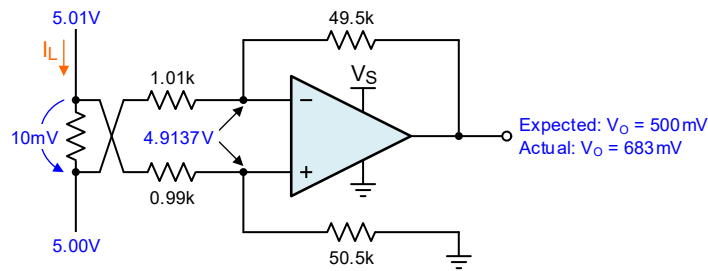
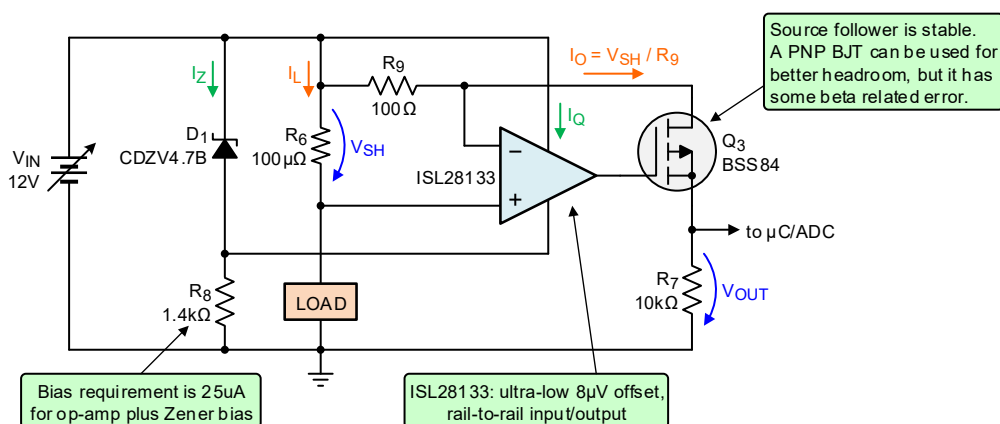
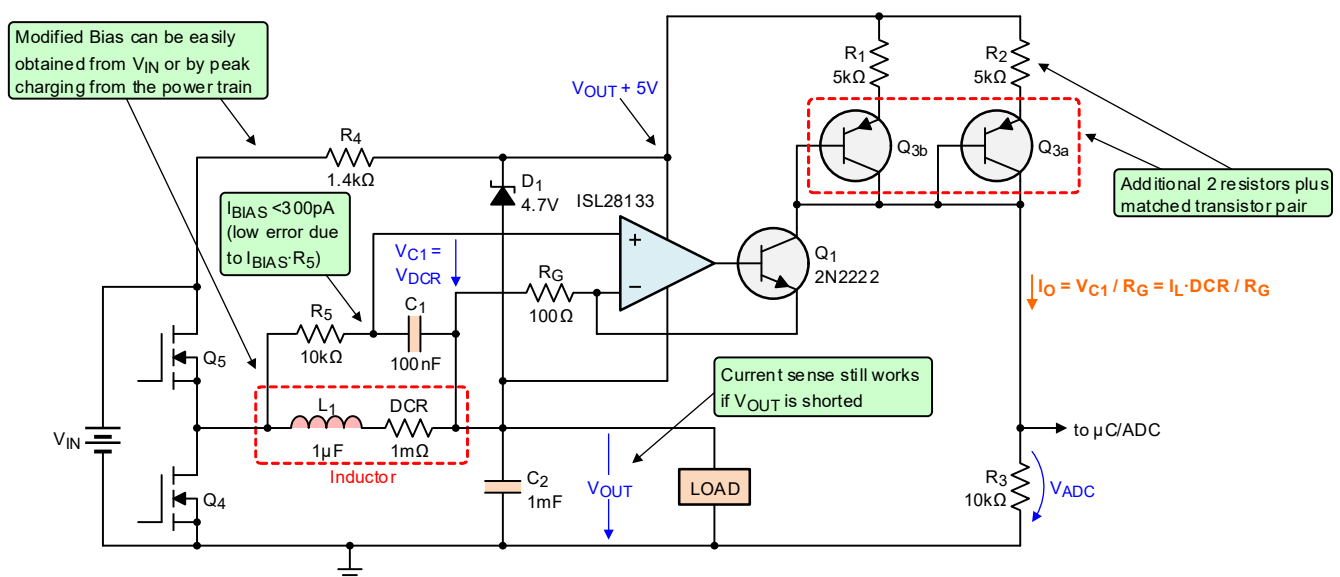
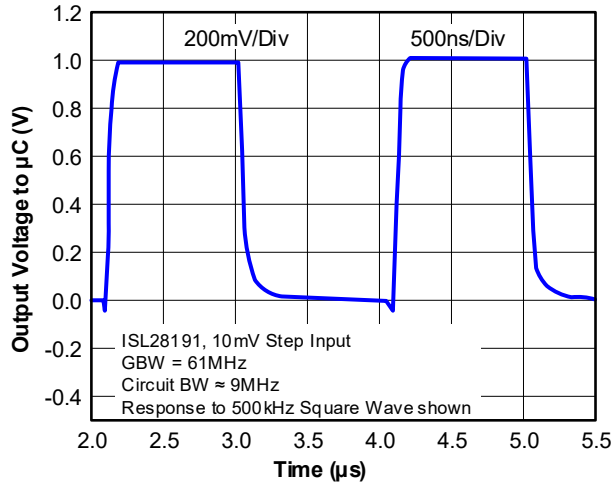

Figure 3. Differential Amplifier Configuration with 1% Tolerance Resistors
Figure 4. Simple Level Shift Circuit using a Low-Voltage Amplifier
Figure 5. Modified Sense Configuration using DCR Sensing in a Buck Converter
Figure 7. Simulated Response of the Circuit in Figure 5. The ISL28191 is used in Place of the ISL28133
Figure 3 shows this numeric example of the worst-case tolerance. The voltage at the non-inverting terminal of the amplifier is calculated to be 4.9137V based on the worst case values of 0.99k Ω and 50.5k Ω for the resistor divider and the voltage at the inverting terminal is the same by virtual null. The current in the 1.01k Ω resistor is
The remainder of this application note explores two circuit techniques (Figure 4 and Figure 5), which allow the use of conventional 5V op amps for sensing current on high voltage rails. A simple, low power consumption biasing scheme is used to power the amplifier. In addition, the gain-bandwidth of the overall circuit can be much higher than the gain bandwidth of the amp itself.
One circuit technique is shown in Figure 4. This example shows the shunt on a 12V rail being measured by the ISL28133 chopper stabilized amplifier. Because of negative feedback, the voltage across the shunt also appears across resistor R_9 , determining the current through R_9 . This same current flows through the drain and source of buffer transistor Q_3 and through R_7 , generating a voltage with respect to ground that is proportional to the high-side current. The total error in amplifying the shunt voltage is the error because of R_7 , R_9 and the offset voltage. With 0.1% resistors and the $8\mu V$ offset of the ISL28133, the error in sensing $10mV$ is $<0.3\%$. (0.1% from each resistor, $8\mu V/10mV = 0.08\%$ error from the offset). This is $>10x$ better accuracy than the differential amp in Figure 3.
The circuit in Figure 4 works extremely well, but it has two limitations explained as follows:
Figure 5 shows a modified version of the circuit in Figure 4, which resolves these limitations. This example shows the use of DCR sensing in a switching supply. To use this technique, a 5V bias that rides on top of the output voltage is required. In most switching supplies, this bias is usually easy to obtain from either a higher voltage rail or by peak charging from one of the switching nodes. Other changes from Figure 4 are that the op amp output buffer transistor (Q_1) has been changed to an NPN type and, to level shift to ground, a current mirror consisting of matched pair Q_{3a} - Q_{3b} and R_1/R_2 has been added.
Matched transistor pairs are commercially available in a single package with V_{be} matching of $\pm 1\text{mV}$. Proper sizing of R_1/R_2 can minimize the error because of V_{be} mismatch. When compared to the circuit in Figure 4, this circuit still has the additional inaccuracy because of resistors R_1 , R_2 , and the V_{be} mismatch. The overall error is likely to be 2x higher than the circuit of Figure 4 with components of similar tolerance.
Refer to the following notes regarding the circuits in Figure 4 and Figure 5.
- The buffer transistor Q_1 does relieve the gain-bandwidth restrictions of the op amp. The configuration in Figure 5 has a gain of $R_3/R_G = 100$ from V_{C1} to the output. Figure 6 shows the simulated frequency response of this circuit using the ISL28133. The gain-bandwidth of the amp is 400kHz, yet the overall circuit gain bandwidth is $100 \times 100\text{kHz} = 10\text{MHz}$. The buffer transistor improves the bandwidth without destabilizing the op amp.
Figure 6. Frequency Response of the Circuit in Figure 5 (The Input is 1mV at the Point Labels $V_{C1} = V_{DCR}$ in Figure 5. The Output is at the Point Labeled to $\mu\text{C}/\text{ADC}$)
- A higher bandwidth amplifier can be used to accurately replicate the current waveform in a switching power supply. The ISL28134 has a GBW (gain-bandwidth) of 3.5MHz and only 2.5µV offset. The ISL28191 has 61MHz GBW with a max offset of 630µV. Figure 7 shows the simulated response of the circuit in Figure 5, using the ISL28191 when a 10mV square wave is imposed across V_{C1} . The circuit amplifies the signal by 100x and replicates this 500kHz waveform with little loss of the higher frequency harmonics. This can be extremely useful for peak current detection in switching supplies.